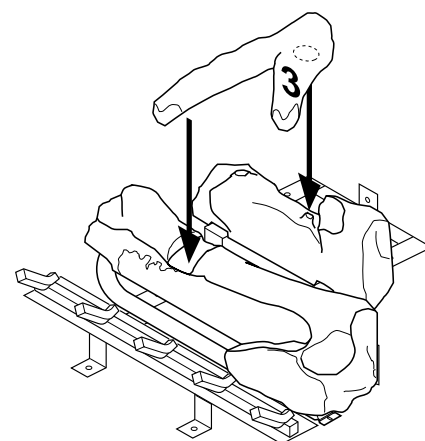

Figure 48 - Installing Log No. 3
3. Place log #3 (crossover log) onto the rear and front logs. Make sure it is seated properly into the notch on the front log and over the raised triangular portion of the rear log as shown in Figure 48.